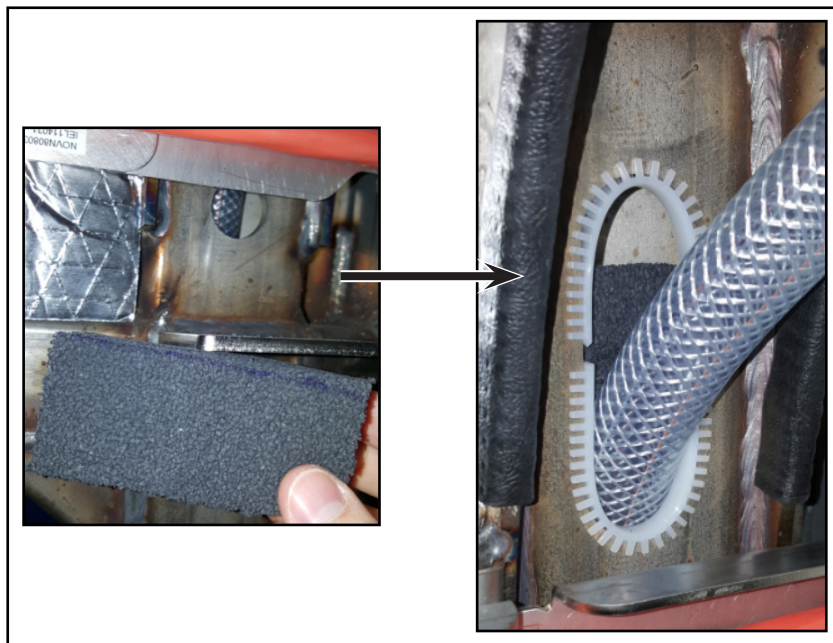

Figure 8 - Typical View of Smaller Foam Pieces to Block the Top Portion of the Structure
- 1.12. Use the smaller foam pieces to block the top portion of the structure cut-outs with an HVAC drain (see Figure 8).